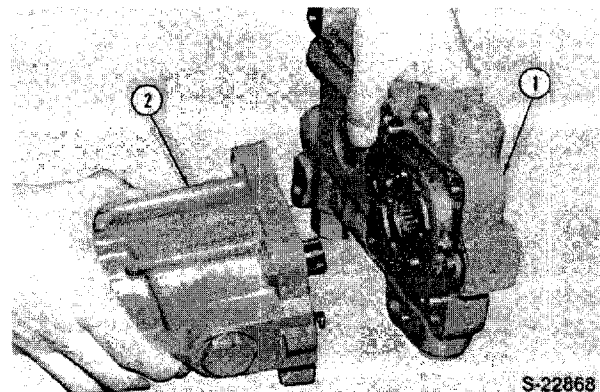

Figure 48
3. Remove the motor assembly and valve plate, Figure 48.